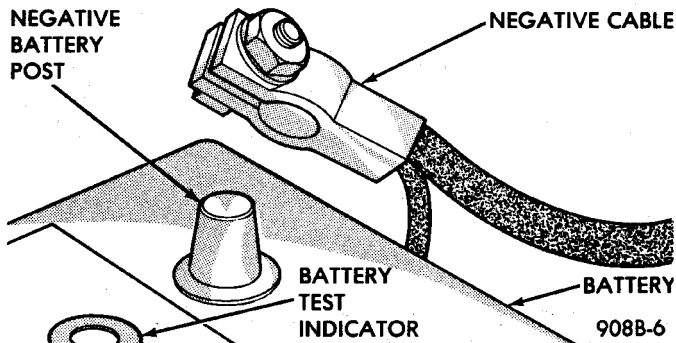
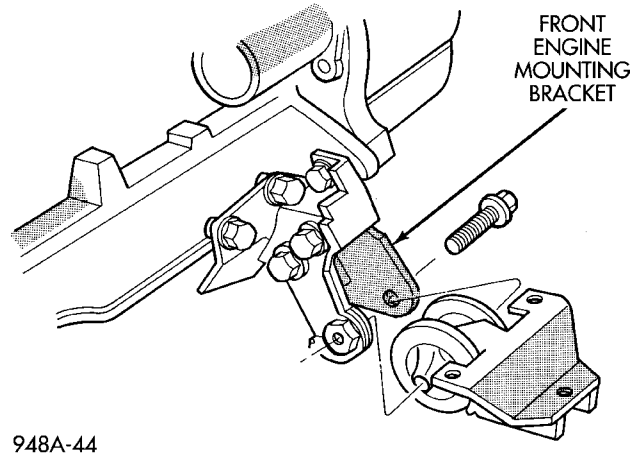
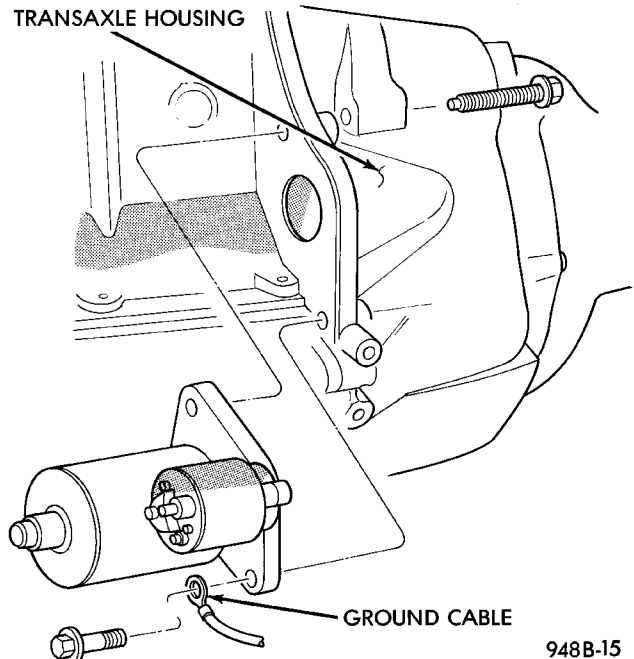
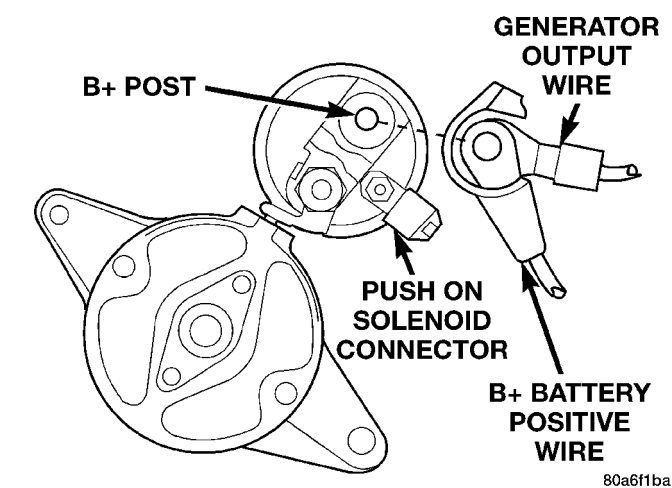

Fig. 8 Battery Cable Removal and Installation
Fig. 9 Front Engine Mount Bolt Removal
Fig. 10 Starter Removal
Fig. 11 Wire Connection
- (1) Disconnect battery negative cable (Fig. 8).
- (2) Raise vehicle.
- (3) Vehicles equipped with A/C:
- (b) Remove the front engine mount bolt from the insulator and front crossmember mounting bracket (Fig. 9).
- (4) For easier servicing, do not remove the wiring from starter at this time.
- (5) Remove two bolts attaching starter to transmission housing (Fig. 10).
- (6) Remove starter/starter solenoid assembly from transmission housing. Position the starter to gain access to the wiring connectors.
- (7) Remove the battery positive cable nut and remove the battery positive and generator output wire from the starter (Fig. 11).
- (8) Disconnect push-on solenoid connector.
- (9) Position the starter vertically such that the pinion end faces downward.
- (10) Remove the starter through the bottom of the vehicle. Move aside A/C plumbing as necessary.
- (1) Clean corrosion/dirt from the cable and wire terminals before installing wiring to the solenoid.
- (2) Connect the battery positive and generator output wire to the starter solenoid post (Fig. 11).
- (3) Connect the push-on solenoid connector.
- (4) Position the starter face into transmission housing. Support starter in pilot and start the top bolt (Fig. 10).
- (5) Attach ground cable to lower mounting bolt and start bolt.
- (6) Ensure the proper starter alignment before tightening the starter mounting bolts to 54 N·m (40 ft. lbs.) torque.
- (7) Vehicles equipped with A/C:
- (b) Install the front engine mount bolt through the insulator and front crossmember mounting bracket (Fig. 9).
- (8) Lower vehicle and connect battery cables.